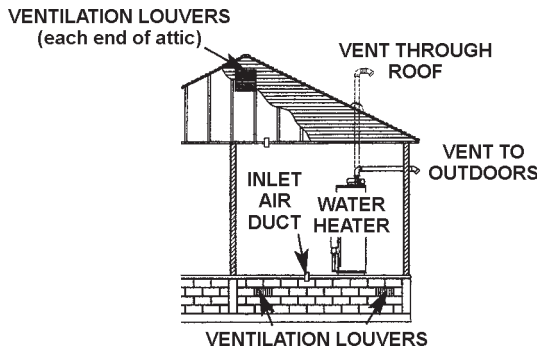

FIGURE 13.
**B. ALL AIR FROM OUTDOORS:** (See Figures 13, 14 and 15)
1. When directly communicating with the outdoors, each opening shall have a minimum free area of 1 square inch per 4,000 Btu per hour (5.5 cm2/kW) of total input rating of all equipment in the enclosure, see Figure 13.